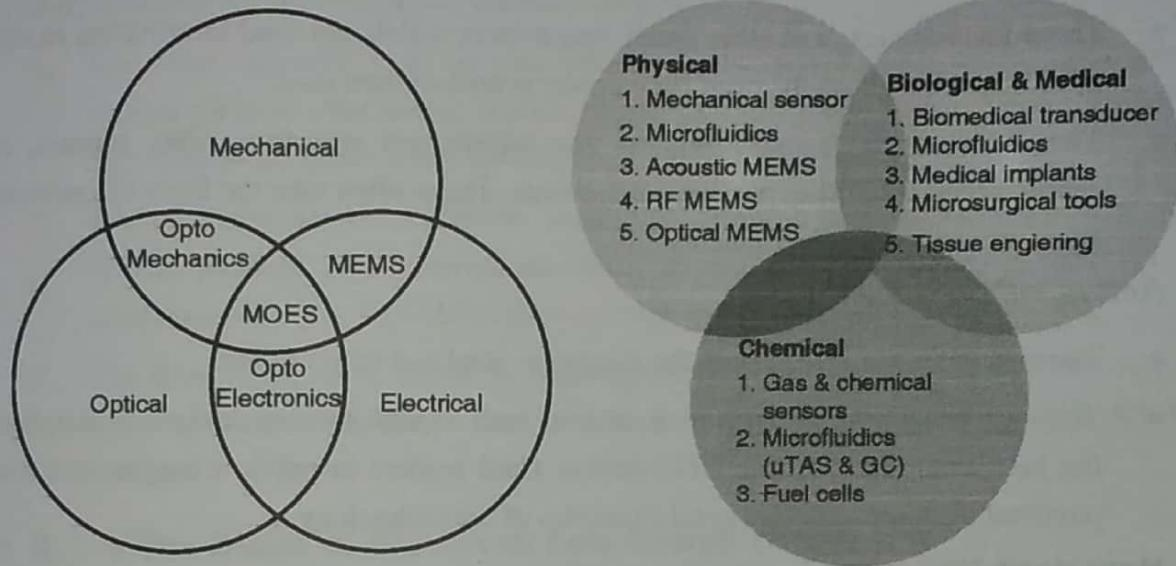

Fig. 2.6.3 : Classifications of microsystems technology .
- Fig. 2.6.3 illustrates the classifications of microsystems technology (MST). Although MEMS is also referred to as MST, strictly speaking, MEMS is a process technology used to create these tiny mechanical devices or systems, and as a result, it is a subset of MST.